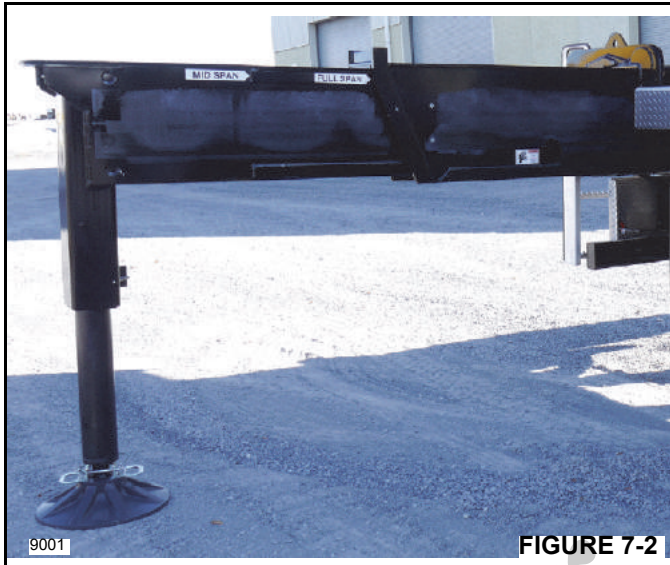

FIGURE 7-2
1. Fully extend and set the outriggers. Refer to (Figure 7-2.)